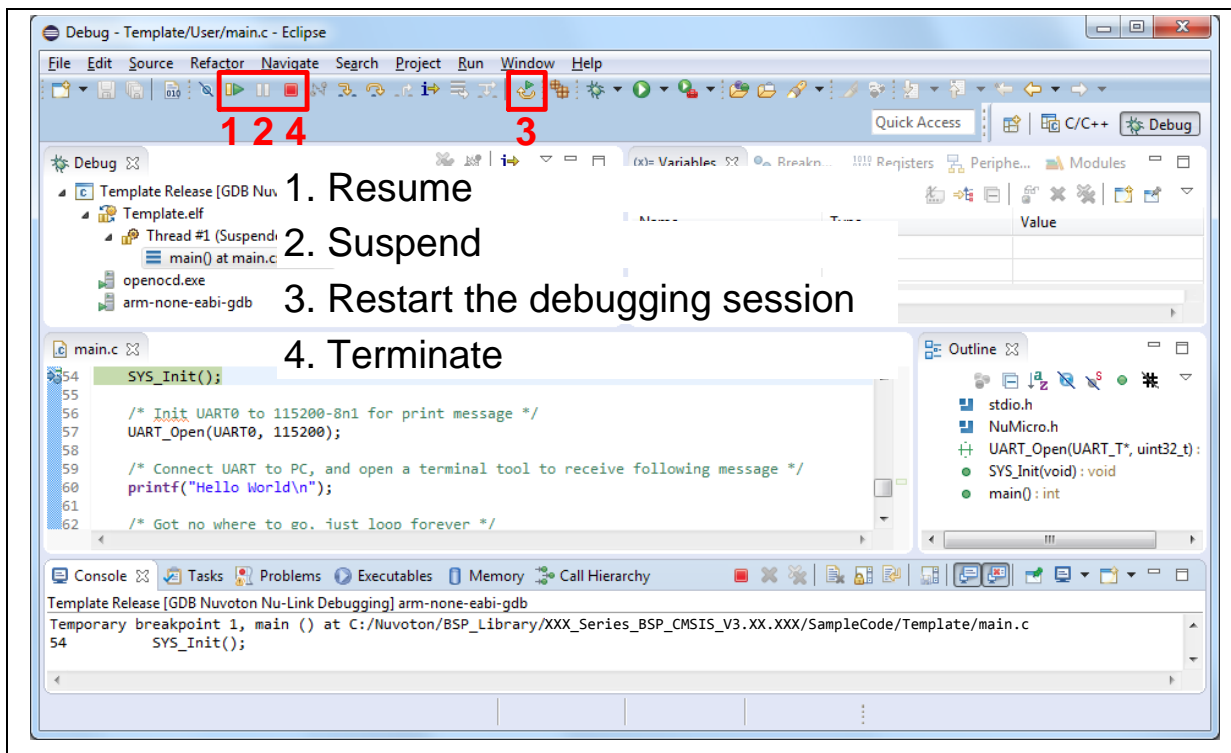
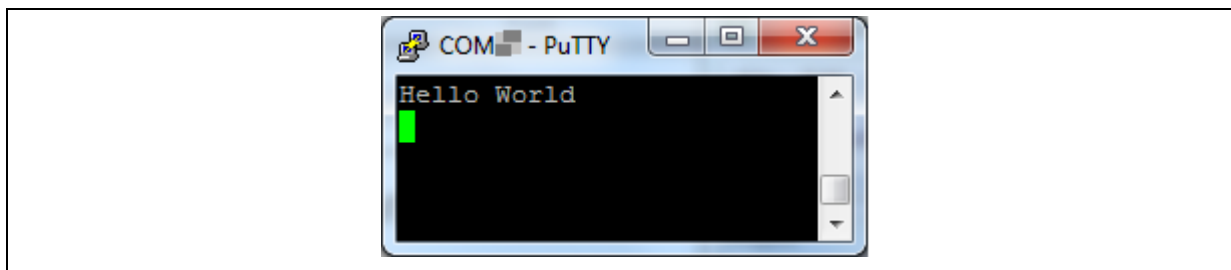

Figure 4-28 NuEclipse Debug Mode
Figure 4-29 Debug Message on Serial Port Terminal Windows
6. Figure 4-28 shows the debug mode under NuEclipse. Click “Resume” and the debug message will be printed out as shown in Figure 4-29. User can debug the project under debug mode by checking source code, assembly language, peripherals’ registers, and setting breakpoint, step run, value monitor, etc. For more information about how to use NuEclipse, please refer to the NuEclipse User Manual.